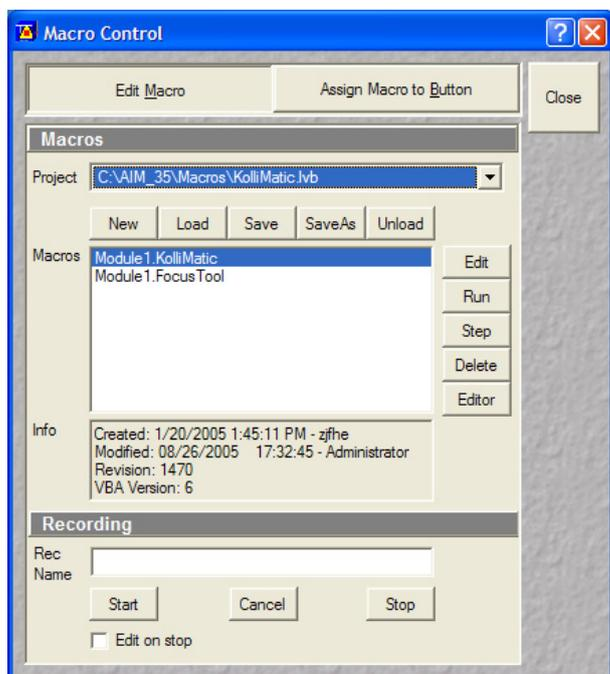

Fig. 4-175 Macro Control Window of the main LSM Software
- Use the Macro Menu of the main LSM software to **Load** and **Run** the macro **KolliMatic** (See Fig.4-175)